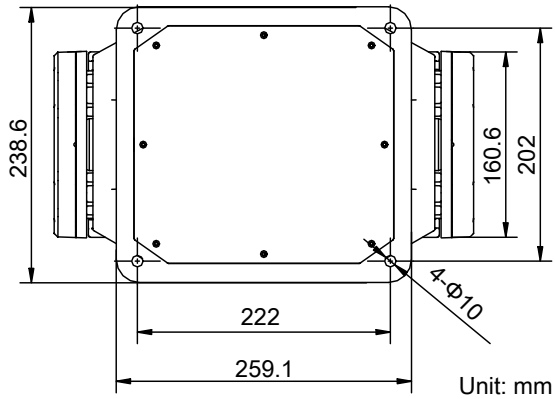

Figure 2-14 Positioning System Base Dimensions
5. Drill four holes on the installation position according to the Figure 2-14.